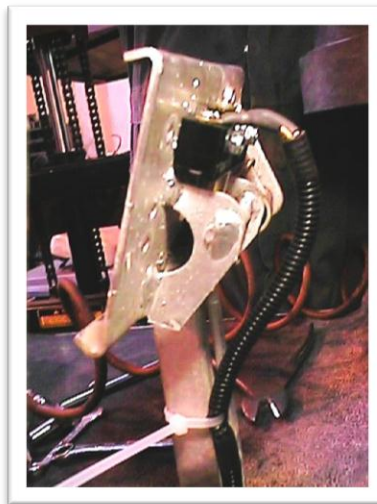

Figure 5 Park Brake Switch
21. Mount the park brake switch, plunger down, behind the pedal plate and secure with the 2 machine screws and lock nuts. Holes are provided in the pedal plate (Figure 5).